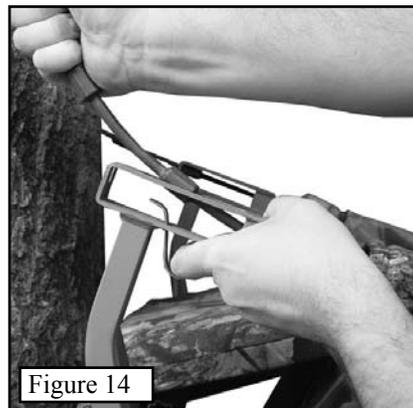

Figure 14
Step 2. Take one end of the cable around the tree and begin to slide it down into the tubing as shown in *Figure 14*. Once the cable slides easily into the tubing (it helps to bend the cable upward while pushing down on it as it is inserted), you are ready to place it in its final position.